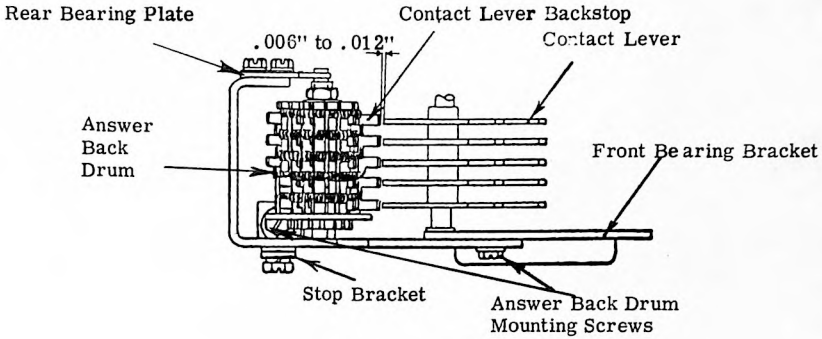

Figure 6
2.3 Answer Back Drum Alignment (Figure 6)